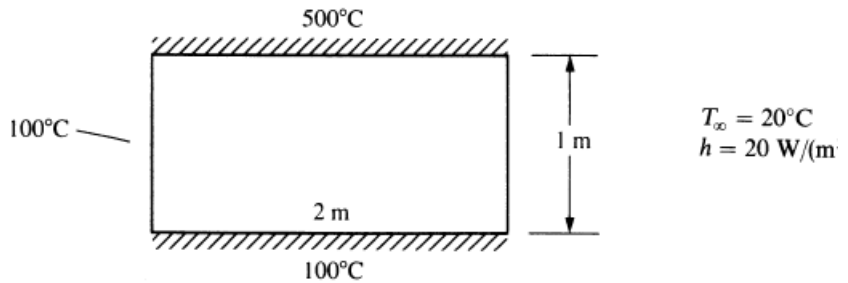

Figure P7.14
14. For the two-dimensional body shown in **Figure P7.14**, determine the temperature distribution. The top and bottom sides are insulated. The right side is subjected to heat transfer by convection. Let $k = 10 \text{ W/(m }^{\circ}\text{C)}$.